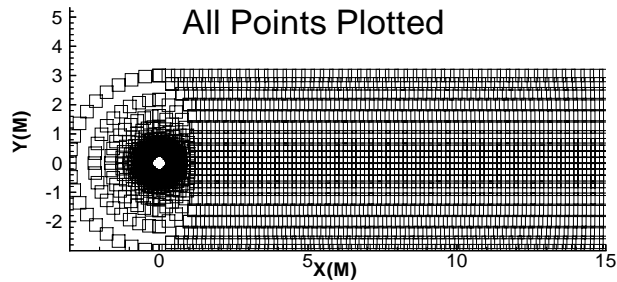
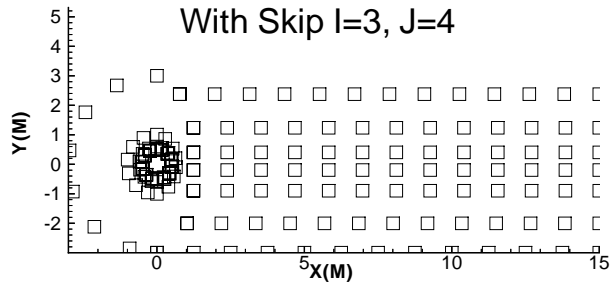

Figure 14-9. A crowded scatter plot, using the cylinder data.
Figure 14-10. A scatter plot with Index Skip specified.
For example, a typical scatter plot from a full-size mesh has so many points it is difficult to see individual symbols (shown in Figure 14-9). Figure 14-10, on the other hand, shows a “thinned” scatter plot of the same data with Index Skip specified, showing every third point in the I-direction and every fourth point in the J-direction.
5. (Enter Skip only) Enter the desired values of I-Skip, J-Skip, and K-Skip. Figure 14-10 was created with the following settings: *I-Skip=3, J-Skip=4, K-Skip=1*.